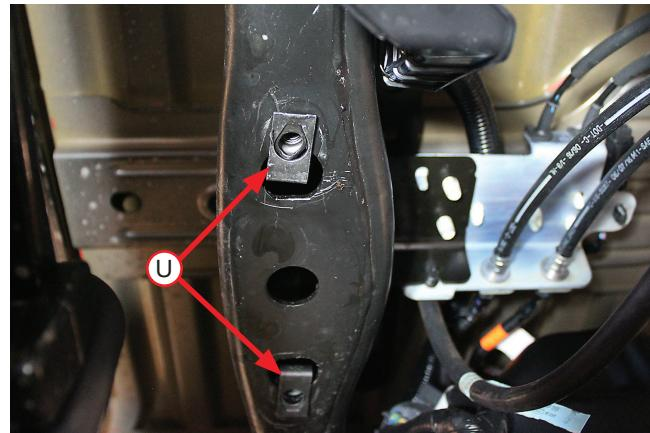

Fig. 5
3. Install the universal nuts (U) into the frame rail, lining up the holes in the frame and the threads in the nuts so that a bolt can be installed (Fig. 5).